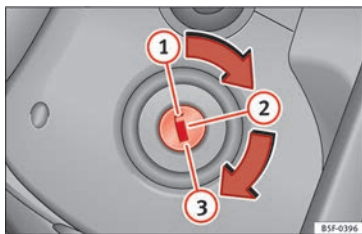

Fig. 141 Ignition key positions.
» **Fig. 141.**
- Remove the key from the ignition in position  » **Fig. 141** » .